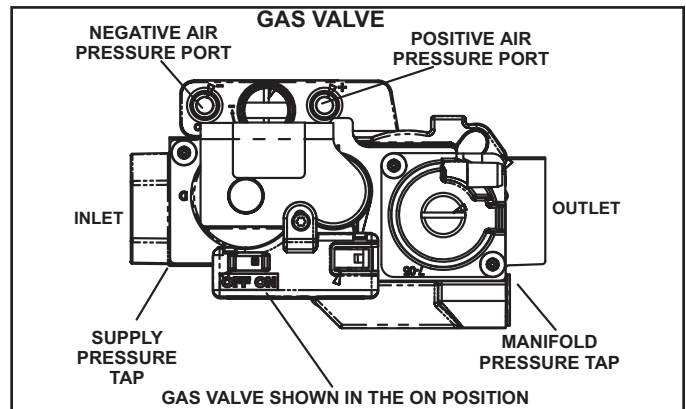

FIGURE 51
Gas Valve Operation (FIGURE 51)
- 6 - Move gas valve switch to OFF. See FIGURE 51.
- 8 - Move gas valve switch to ON. See FIGURE 51.